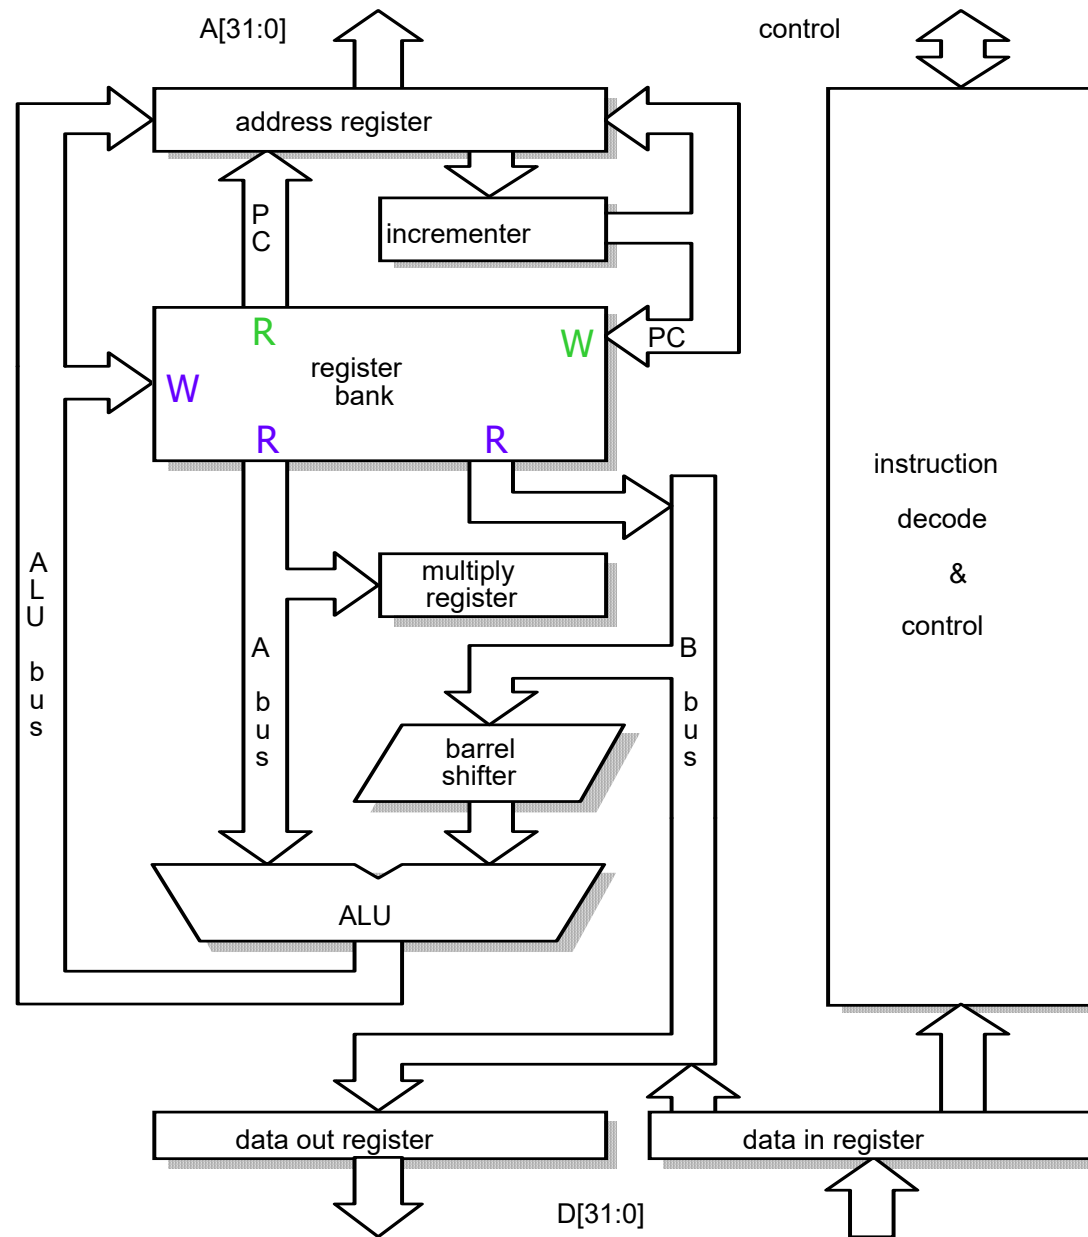

Fig. 4.1 ARM organization
- ◆ ARM processors up to the ARM7 employ a simple 3-stage pipeline with the following pipeline stages: (Fig. 4.1)
- Data path organization: **Fig. 4.1** (3-stage pipeline)